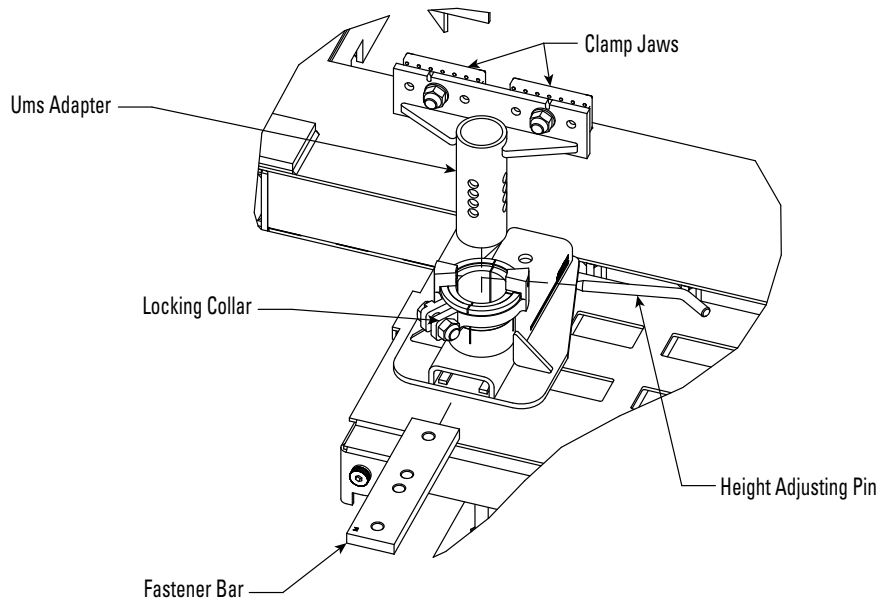

Figure 40
2. Loosen the Clamp Jaws and Locking Collars (see Figure 40).